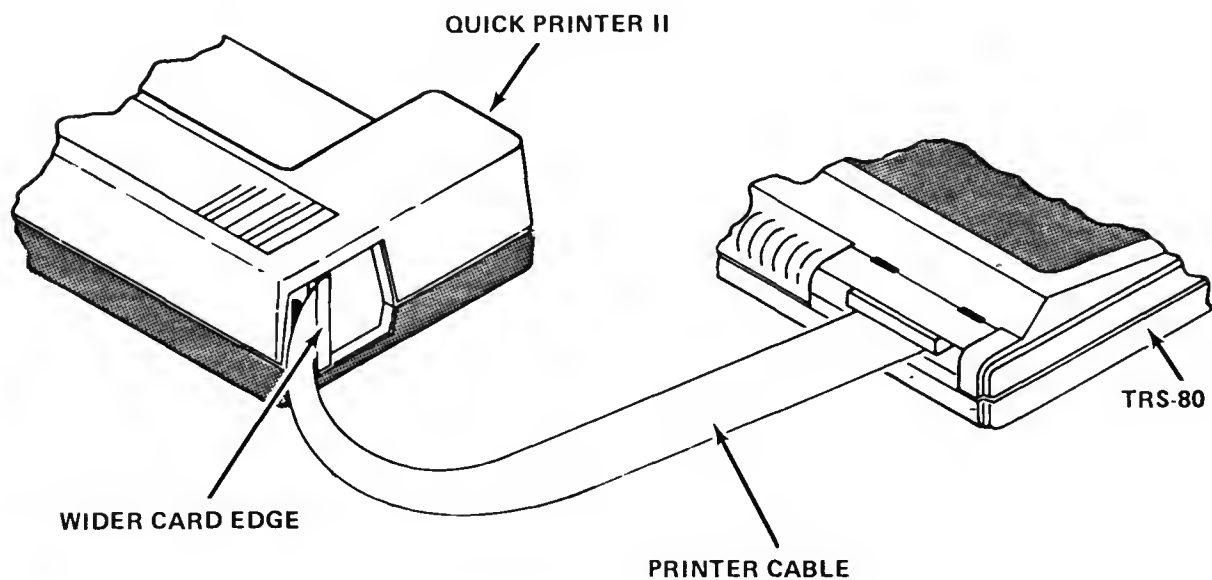

Figure 3. Connection to TRS-80 Card-Edge
5. Notice there are two card-edges at the back of the Printer. Connect the two-foot cable supplied with the Quick Printer II to the wider of these two card-edges, as shown in Figure 3. Be sure the flat cable exits from the left of the card-edge connector.
6. Remove the Expansion Port door from the left rear of the TRS-80 to expose the TRS BUS card-edge. Mate the other end of the two-foot cable onto this card edge, making sure that the flat cable exits from the bottom of the connector. See Figure 3.